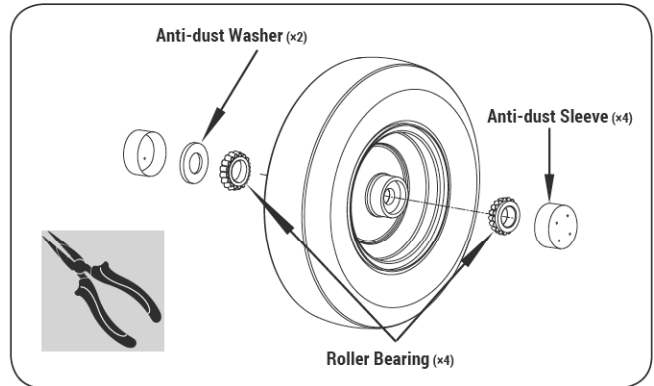

Figure 3a
1. Remove the anti-dust sleeves from the two wheels. Take the anti-dust washers and roller bearings from the wheels and set aside for later use. (See *Figure 3a.*)